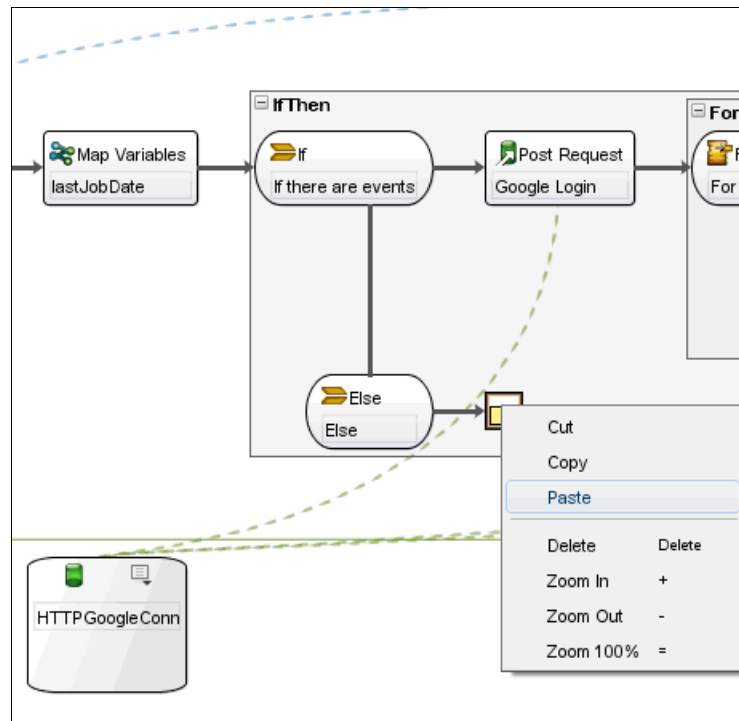

Figure 11-34 Pasting an IfThen activity block
2. Paste the block into the orchestration in the Else branch of the first If...Then activity in the orchestration, as shown in Figure 11-34.